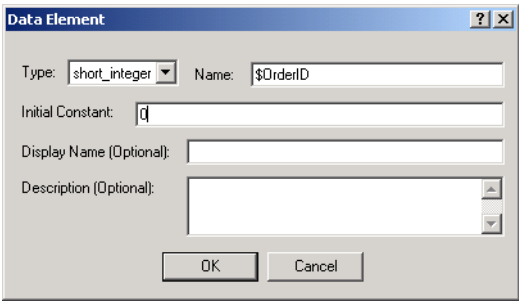

Figure 28-6. Data Element dialog with \$OrderID global data element.
- 4 Type a zero (0) in the Initial Constant field. Compare your work to Figure 28-6, below.